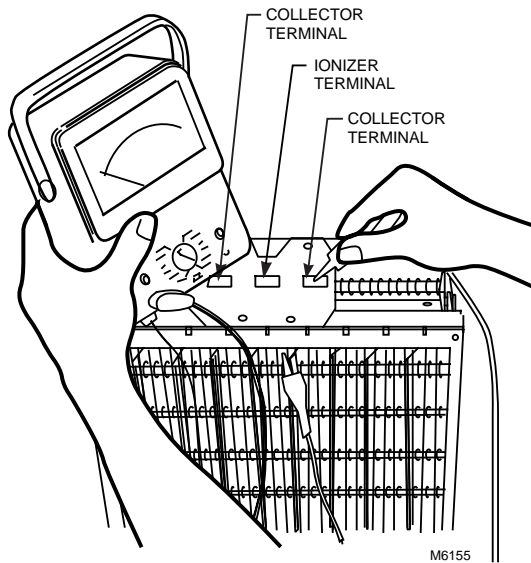

Fig. 23. Use ohmmeter to check electronic cells for short circuits.
3. Check the cell for short circuits using an ohmmeter. Check the resistance between the frame of the cell and both the ionizer and the collector contacts. In each case, the resistance should be infinite. See Fig. 23.